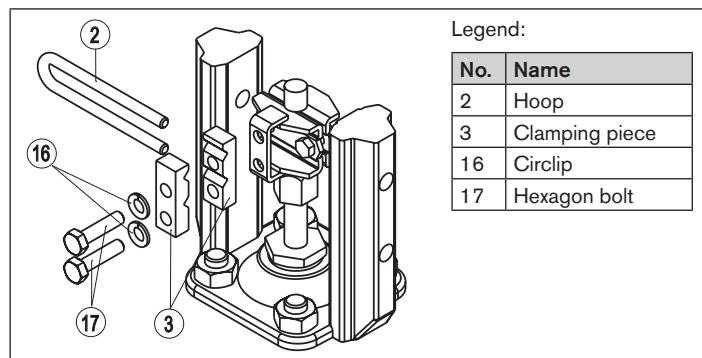

Fig. 25: Attaching the hoop
! The conical roller ⑤ on the lever ⑥ of the position sensor must be able to move freely in the hoop (refer to "Fig. 25: Attaching the hoop") along the entire stroke range of the actuator.